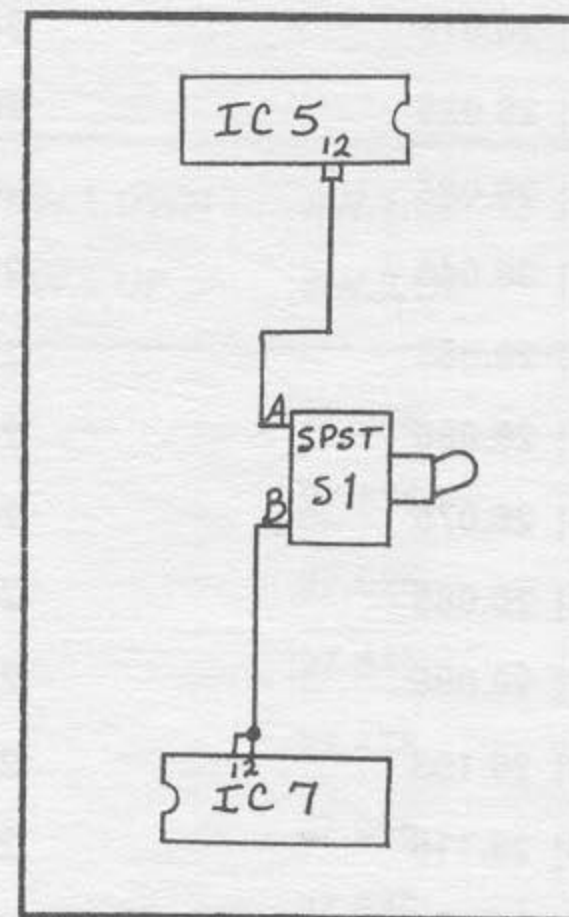

FIGURE 1. SUPER GALAXY
THIS CIRCUIT PICKS UP THE "A" CHANNELS AND SKIPPED CHANNELS IN CONVERSIONS. REFER TO FIGURE 1. USE A PERF BOARD TO BUILD CIRCUIT ON.
1. BUILD THE CIRCUIT DIAGRAMMED IN FIGURE 1.